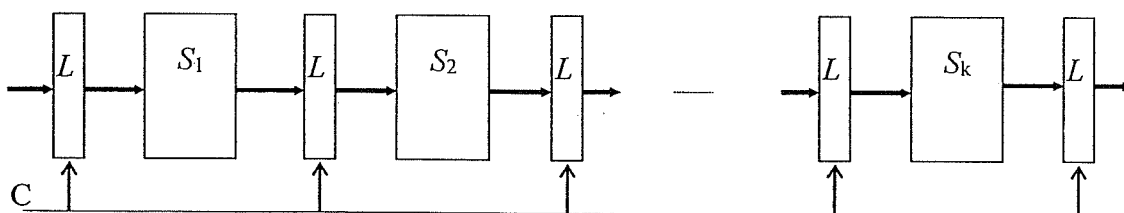

Fig. 1 Linear pipeline with k stages.
5. The Fig. 1 shows a linear pipeline with k stages (S_i) separated by latches (L). Common clock (C) is applied to all latches simultaneously. Each stage S_i has a time delay τ_i , where $i=1,2,\dots,k$.